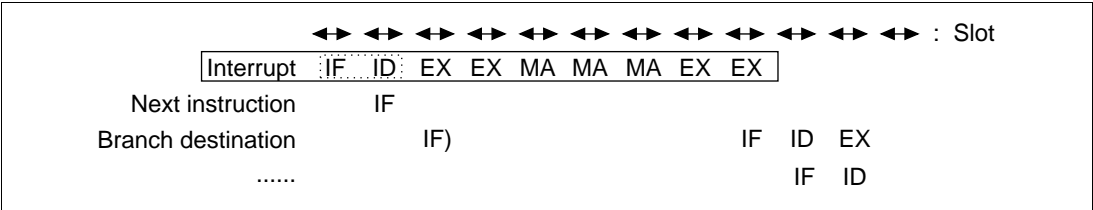

Figure 7.97 Illegal Instruction Exception Processing Pipeline
Illegal Instruction Exception Processing (Common): The illegal instruction is received during the ID stage of the instruction and everything after the ID stage is replaced by the illegal instruction exception processing sequence. The pipeline has nine stages: IF, ID, EX, EX, MA, MA, MA, EX, and EX (figure 7.97). Illegal instruction exception processing is not a delayed branch. In illegal instruction exception processing, overrun fetches (IF) occur. Whether there is an